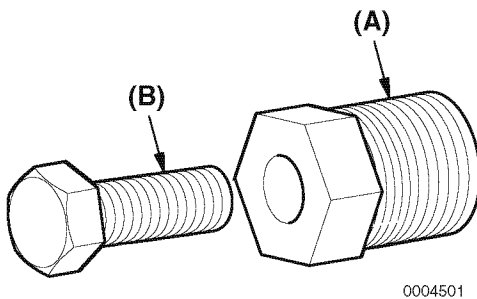

Figure 7
2. Install puller (**Figure 7, (A)**) in the impeller.
3. Turn the jack screw (**Figure 7, (B)**) clockwise to remove the impeller from the pump body.